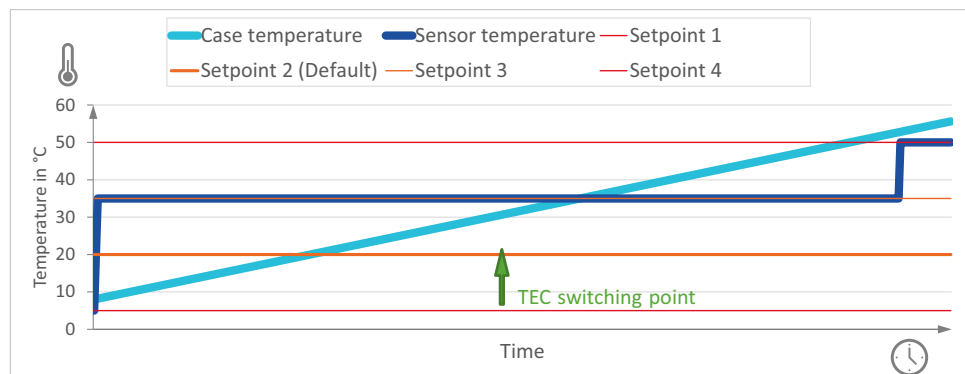

Figure 101: Schematic figure of TEC heating and cooling
During operation, as long as the TEC does not actively cool the sensor, the sensor temperature usually is higher than the housing temperature. So, even if the sensor temperature is below the current temperature setpoint, the TEC might still be required to cool the sensor. The green arrow in Figure 101 shows this situation. Note for better understanding the housing temperature profile is shown in a simplified way that covers the whole temperature range.
- Set to *Auto*, the TEC is able to switch to a higher setpoint, if it exists, as shown in Figure 101.